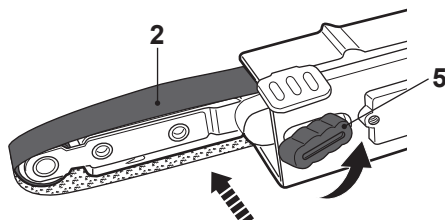

Fig. 5
- > Turn the tracking adjustment knob (5) anticlockwise to adjust the sanding belt (2) to the left (Fig. 5).